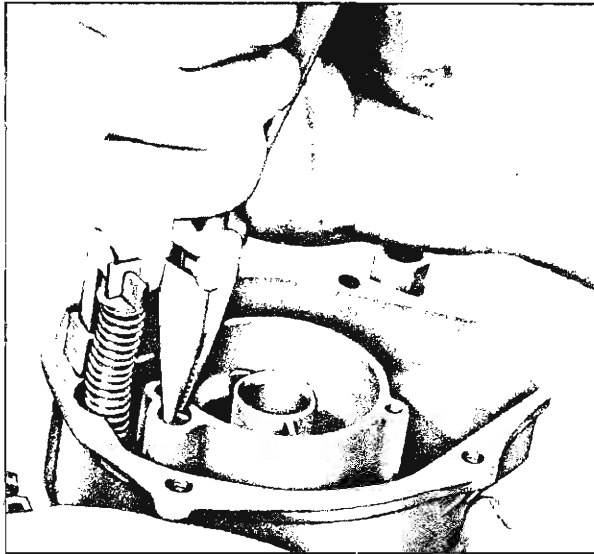

Fig. 12—Removing Pump Discharge Guide
- 15. With small needlenose pliers, remove pump discharge guide (fig. 12). Pump discharge spring and ball check will fall from bowl when turned upside down.